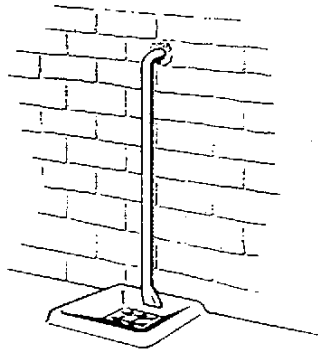

Fig. 15 PRESSURE VALVE DISCHARGE
5. PRESSURE RELIEF VALVE (Fig. 15)